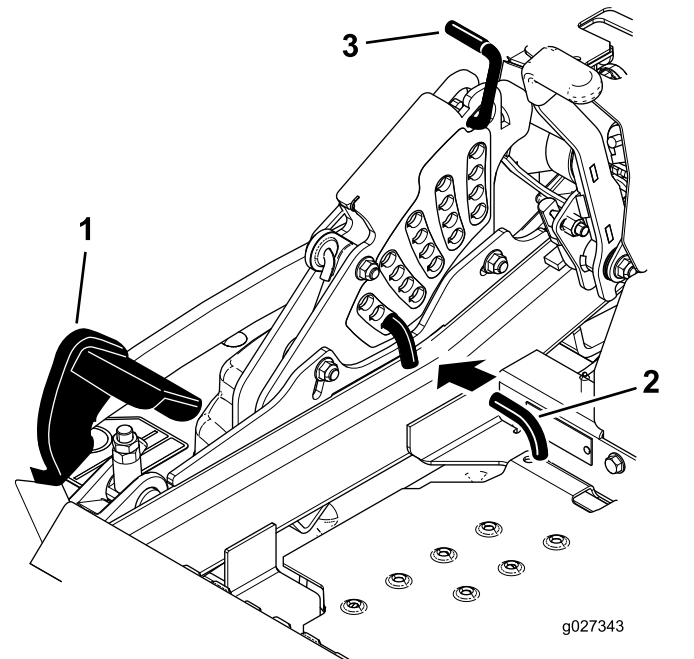

Figure 30
2. Push on the deck-lift pedal with your foot, and raise the mower deck to the transport position (also the 140 mm (5-1/2 inches) cutting height position) as shown in Figure 30.
3. To adjust, rotate the pin 90 degrees and remove the pin from the height-of-cut bracket (Figure 30).
4. Select a hole in the height-of-cut bracket corresponding to the height-of-cut desired, and insert the pin (Figure 30).